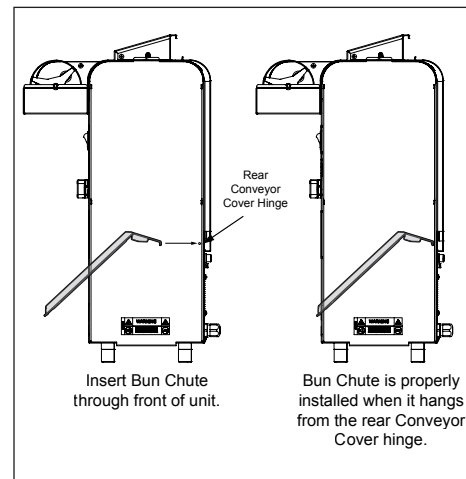

Figure 2. Installing Bun Chute
2. Install the Pan over the front edge of the Bun Feeder and place the Butter Roller in Pan and engage into gear case (Figure 2).
2. Insert the Bun Chute through the front of the unit according to Figure 2.
3. Hang the back of the Bun Chute on the rear Conveyor Cover hinge. When properly installed, the Bun Chute supports will be flush against the front of the unit (Figure 2).